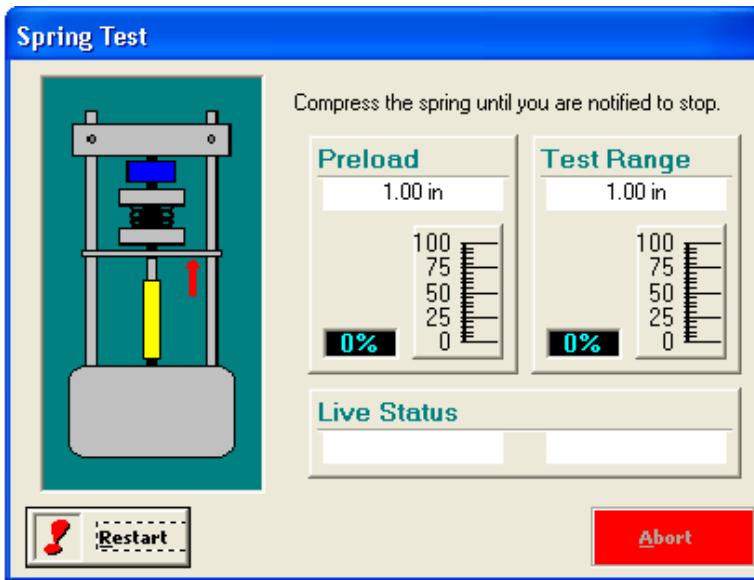

figure:4
- The next screen will instruct the operator to compress the spring. (figure:4) As the spring is compressed the bar graphs marked **preload** and **test range** will fill out as the test is run through the preload and test range. When the spring has been compressed to the end of the test range a new screen will appear notifying the user to stop compressing the spring, be sure to continue to compress the spring until the screen changes and prompts you to stop. Ending the compression early can disrupt the data collection at the start on the collection. At the end of the compression you will be instructed to wait for the program to stabilize, if you over compress the spring the program will warn you. Over compressing the spring will not affect the collected data but loading the load cell past its rating could damage the load cell. **THE TOTAL OF PRELOAD AND TEST RANGE FORCE SHOULD NEVER EXCEED THE LOAD CELL RATING.** If you are unsure of your load cell rating contact REI support.